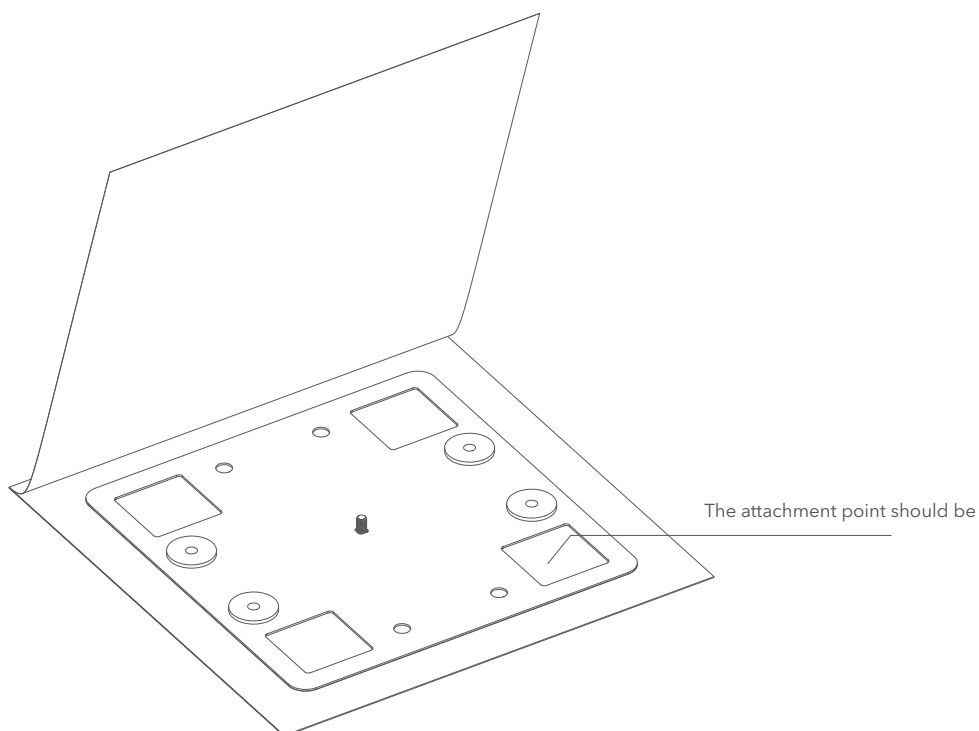

Fig. 4: Welding the diaphragm at the attachment points.
- 3** Attach the membrane with the dimensions 510 x 510 mm and drill holes for the drill holes for the screws. Weld the membrane at the four fastening points and over the entire 50 mm of the mounting surface (Fig. 4).